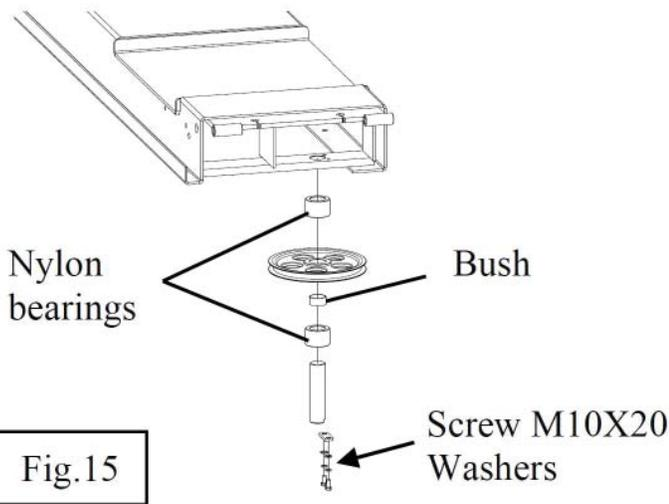

Fig.15
- Assemble the pulleys, bearings and other accessories into both ends of the off-side runway as shown in fig.15.